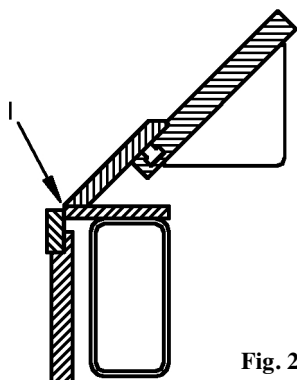

Fig. 2.2 Bending Crack (1)
Before the lock for the upper beam is activated it is necessary to adjust the handles (6) so it is possible to press the pedal home. Finally the handle (8) for the bending beam (2) is adjusted, so the bending crack (see fig. 2.2) correspond with the sheet dimension.